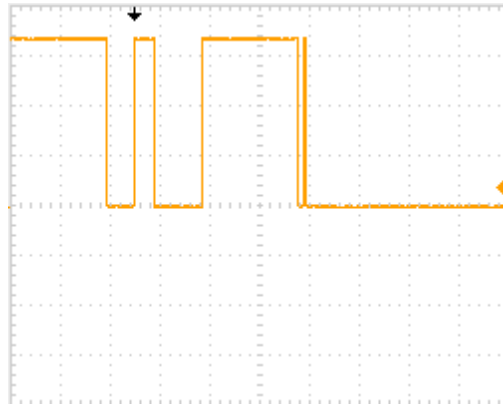
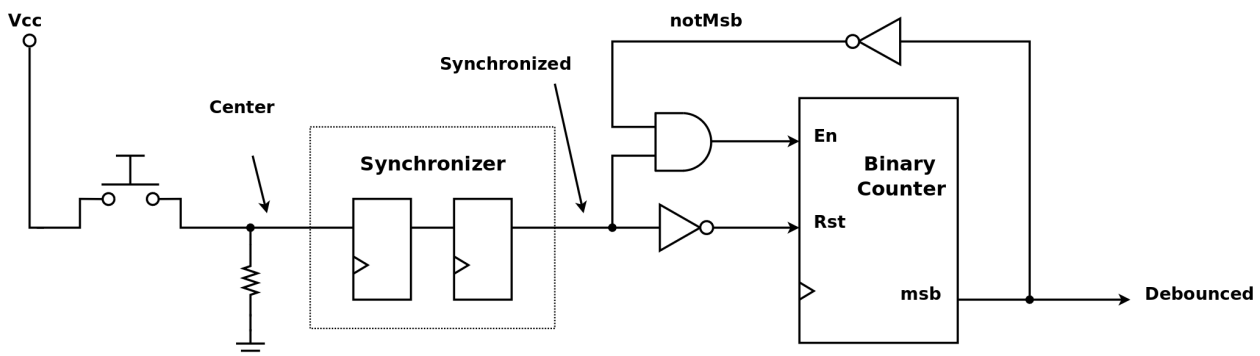
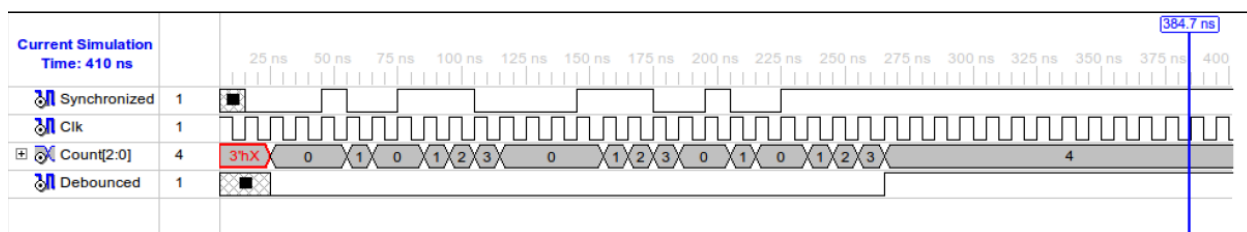

Figure 3: Electrical Chatter
Figure 4: Simple Debounce Circuit
Figure 5: Debounce Circuit Waveform
Up to this point, we have assumed that switches and push-buttons, used for receiving input from the user, are ideal in terms of the output signals that they produce. Unfortunately, this is not the case in the real world because these devices rely on less than ideal electromechanical contacts to generate electrical signals from mechanical events. Electrical chatter as seen in Figure 3 is generated every time a switch is flipped or a button is pressed. This chatter (a.k.a switch bounce) consists of several short duration pulses, which appear as a bouncing signal in the interval immediately after the electromechanical contacts are brought together.
The diagram in Figure 4 demonstrates how a counter can be used to debounce a signal from a push-button. For the moment, ignore the *synchronizer* portion and examine the right half of the debounce circuit. While the *Synchronized* signal is LOW, the counter is held in *reset* (i.e. *Count* = 0). Likewise, the most-significant-bit (msb) of the counter is LOW; therefore, *notMsb* is HIGH. When the *Synchronized* signal transitions to HIGH, the *reset* of the counter is released so the counter will begin counting. Figure 5 illustrates this behavior. Assuming the bit width of the counter is sufficiently sized, the msb of the counter will never become HIGH while the *Synchronized* signal bounces because the counter will continually be *reset*. Thus, the *Debounced* signal should remain LOW during this period. Once the *Synchronized* signal smooths out, the counter will *saturate*. In other words, the msb of the counter will become HIGH, which will in turn force *En* to go LOW, stopping the counter from counting. At this point, the *Debounced* signal will be HIGH until the *Synchronized* signal goes LOW again, in which case the process repeats.
The remaining components in Figure 4 should look familiar. For example, the pull-down resistor brings the output of the push-button circuit to a LOW state when the button is not pressed. This configuration is similar to that of the DIP switches from earlier labs. For the experiments in lab, we will use the push-buttons on the Spartan 3E board and the UCF to specify the use of the pull-down resistor within the FPGA.
3. If the Seconds per Division setting for Figure 3 was set to 1 ms/div, what do you think would be a good bit width for the counter in Figure 4, assuming a 50 MHz clock signal was driving the counter? Explain your answer.